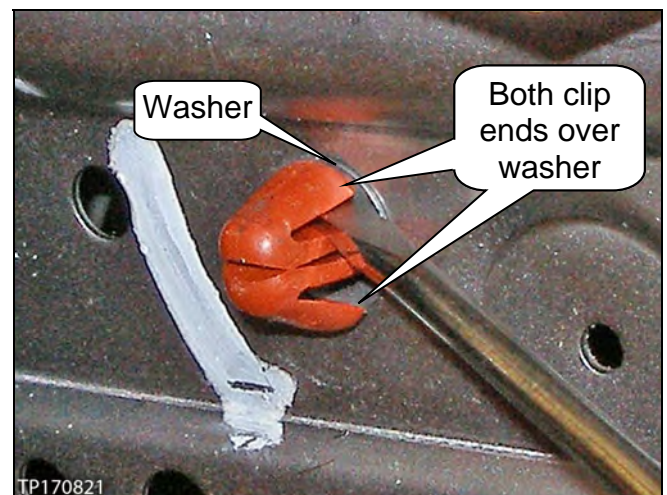

Figure 20
- Make sure the washers are under the ends of the clips (see Figure 20).